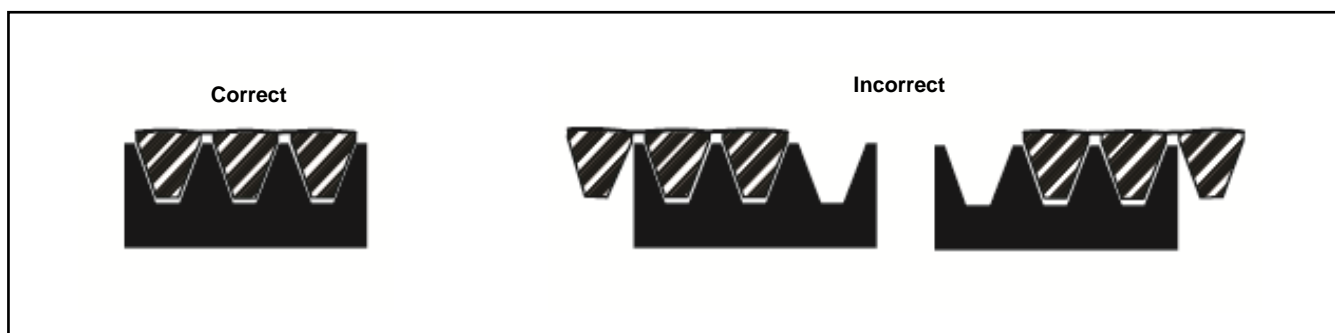

Figure 34 Belt Alignment
5. Make sure that the belt is properly aligned with the grooves on each pulley. See Figure 34.